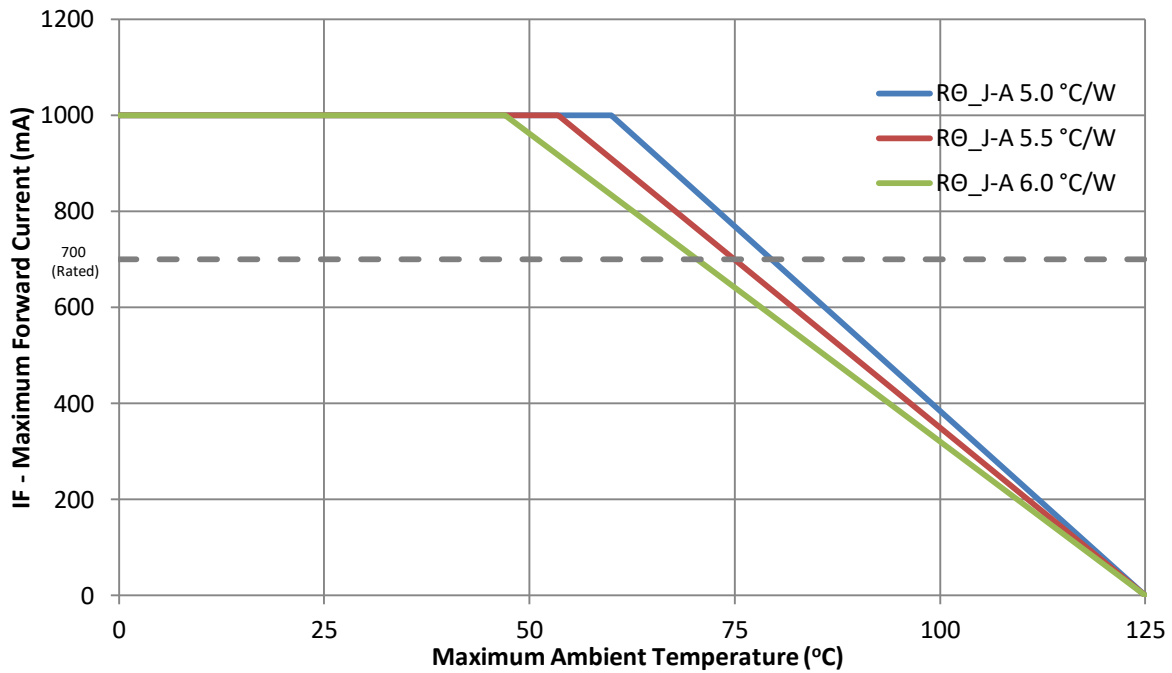

Figure 9: Maximum forward current vs. ambient temperature based on $T_{J(MAX)} = 150^{\circ}C$.
- Maximum DC forward current (per die) is determined by the overall thermal resistance and ambient temperature. Follow the curves in Figure 9 for current derating.
Notes for Figure 9: